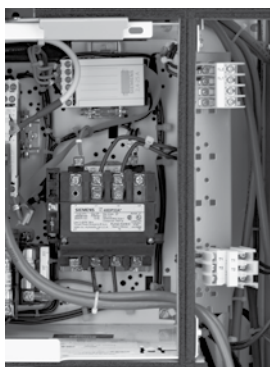

Figure 57
1. To wire the unit, rotate the terminal block swing plate as shown in Figure 57.